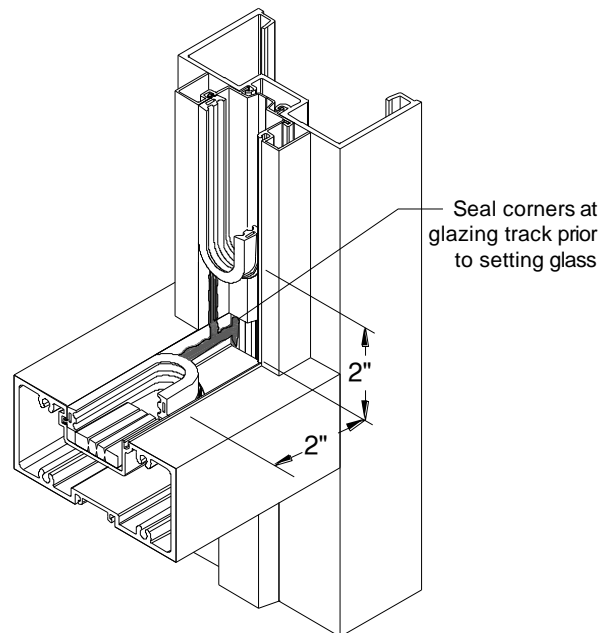

Figure 37: ArmorDefend™ Plus Dry Glaze Interior Gasket Installation at Transom
- 13.2.1.6 Apply sealant in the raceway per the locations indicated in *Figure 37* and set the horizontal Gasket first. Apply sealant at the connection point of the horizontal Gasket and the vertical Gasket before setting vertical Gasket. Clean any squeeze out immediately.